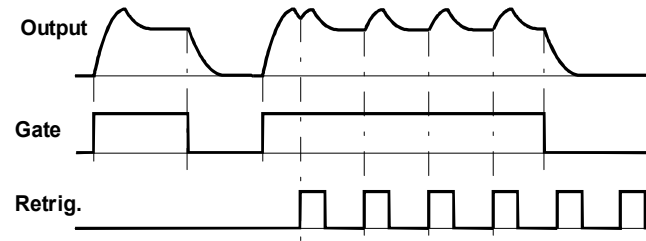

Fig. 2: Envelope re-triggering
The A-141 VCADSR also has a **retrigger facility**: *while the gate is open*, a trigger pulse received at the retrigger socket will **re-start the envelope** from the beginning of its attack phase (see Fig. 2 on page 5).
⑥ Retrig.
Socket ⑥ is the VCADSR's **retrigger input**. This is where you patch in a voltage to re-trigger the envelope. If, for instance, you patch an LFO in, then *while the gate is open*, the envelope is re-triggered every time an LFO pulse is received (see Fig. 2).